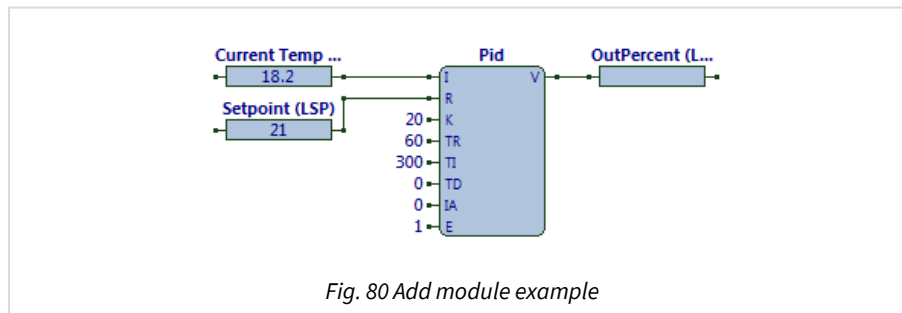

Fig. 80 Add module example
The ObVerse strategy (Fig. 80) calculates an output percentage, in the range '0'..'100', to control the heat supply. The Gain (K) is '20', which implies the proportional part of the output will give 100% output if the temperature is 5 degrees below the Setpoint, because $\text{Error} \times \text{Gain} = \text{Output}$. The integral part of the output is quite fast, allowing 300 seconds to add another gain to the output – after 5 minutes another 20%, after 10 minutes another 20%, etc.